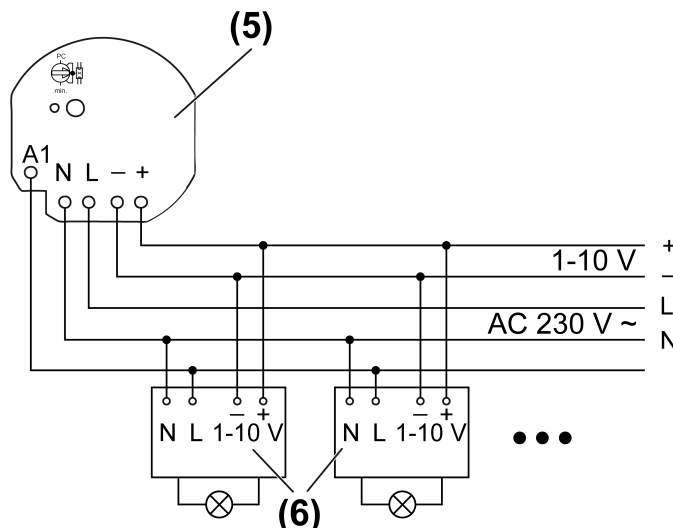

Figure 2: Connection example
- Connect actuator (5) and 1-10 V ballasts (6) as shown in the connection example (figure 2). At the same time, note the information given by the manufacturers of the ballast.
- Insert the actuator in the appliance box in such a way that the **Prog** button (2) and status-LED (3) are visible.